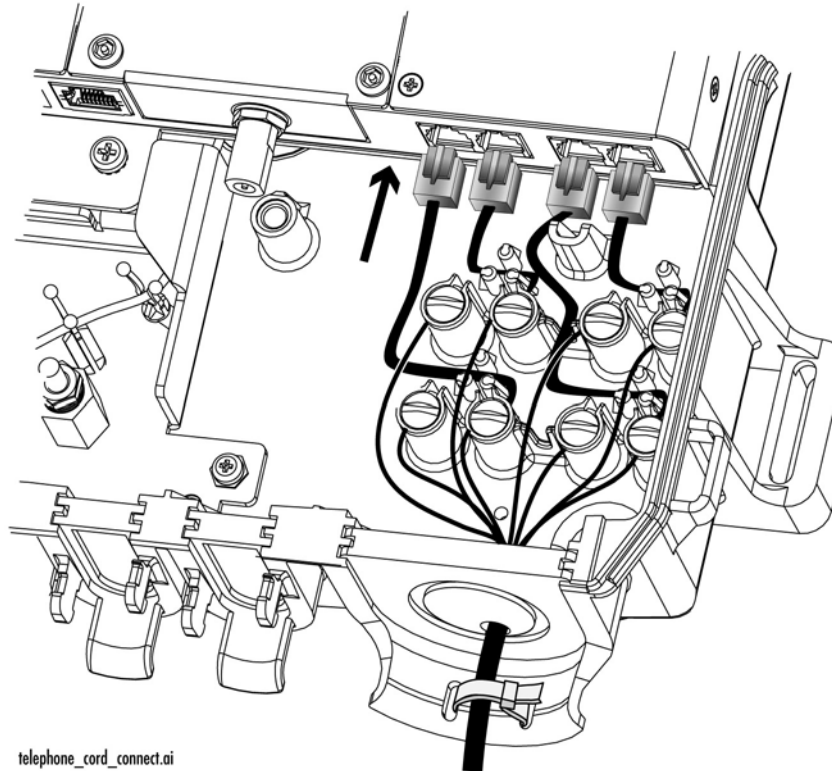

Figure 10. Connecting the Telephone Wires
2. Connect the telephone wires to each pair of telephone terminal posts in the enclosure, as well as the appropriate RJ-11 connectors, as shown in Figure 10, at 5.3 in-lbs.